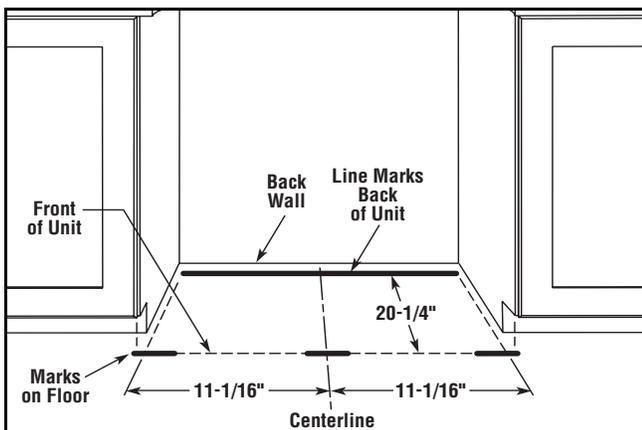

Figure 28
- Remove the unit. Using a square, extend a centerline 20-1/4" toward the back wall (**Figure 28**). At the back of the centerline, mark a line that measures 11-1/16" to the left and right. This line services as the back edge for the Anti-Tip brackets and its furthest points mark the outer edge of each bracket.